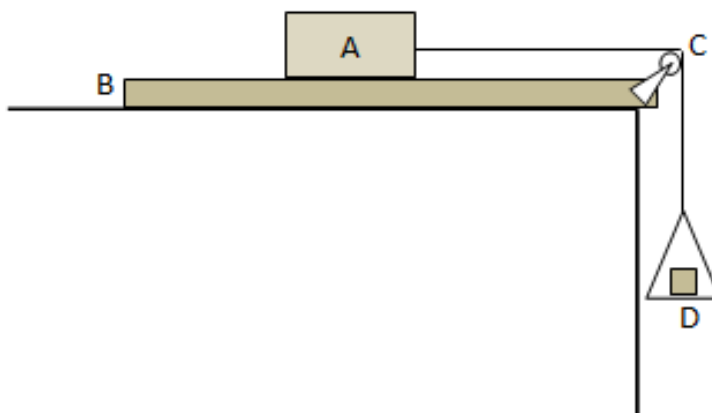

Fig. 5.1: Experimental setup
1. Arrange the apparatus as shown in Fig 5.1